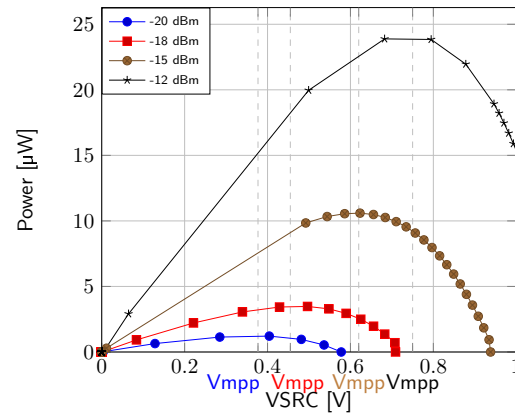

Figure 10: Rectifier power-voltage curves for different input power level (863-868 MHz band)
- Use the current-voltage doublet with the voltage value closest to **Vmpp** to evaluate the efficiency in regime (see Figure 10).